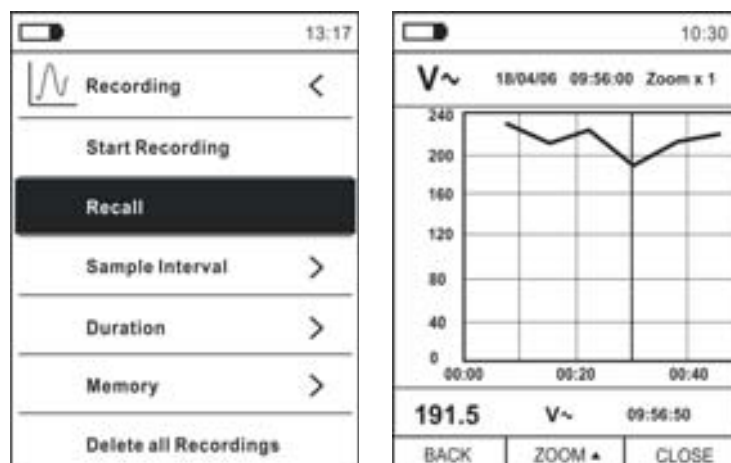

Fig. 38: Data logger function – Recalling recorded data to the display
16. Select item “Recall” (see Fig. 38 – left side) and press key . The screen in Fig. 38 – right side appears on the display.